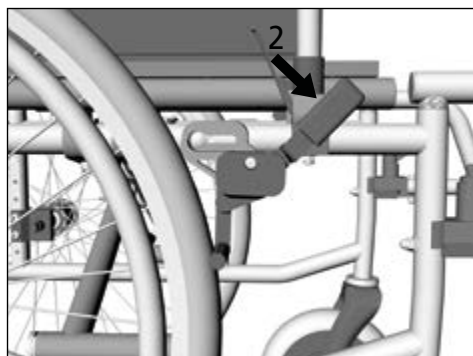

Fig.13
2. Press the brake lever further forwards until you feel it engage (2, Fig. 13).